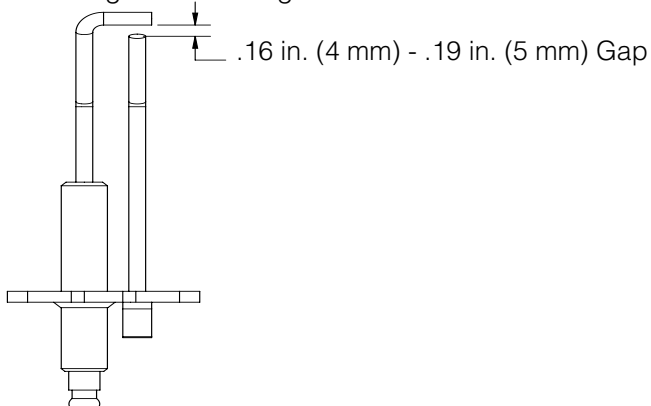

Figure 17-2: Ignitor/Flame Sensor Spark Gap
- C. Verify ignitor/flame sensor spark gap is within range shown in Figure 17-2.
Dirty or damaged ignitor/flame sensor.	Check ignitor/flame sensor gap and distance to burner. See Figure 17-2 and Table 17-4 for distance specification. Replace ignitor/flame sensor if necessary.